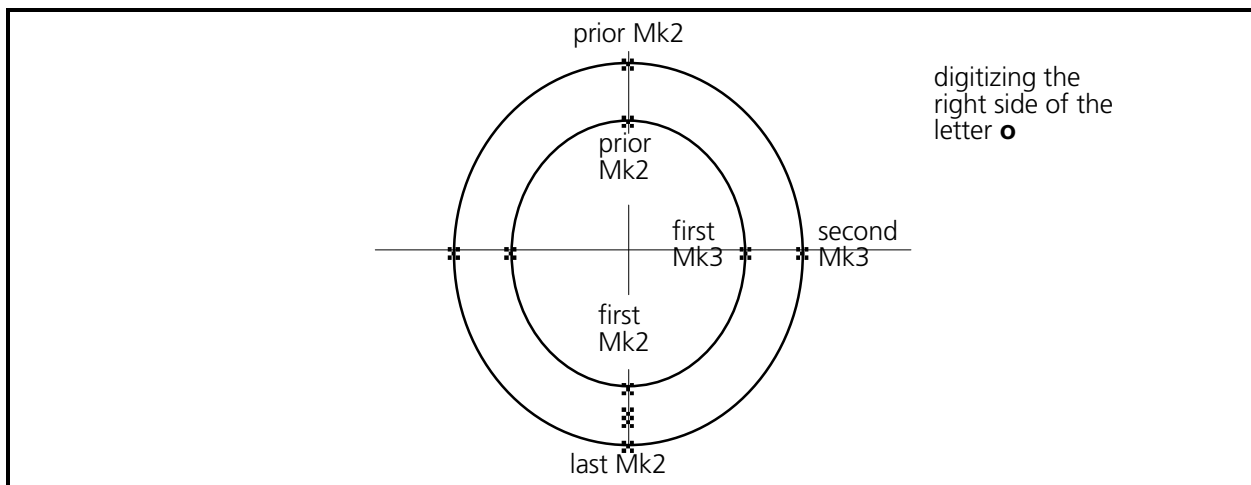

Figure 6-45
When digitizing 2 or more consecutive columns on an arc you do not redefine the beginning of the second (and additional) columns with a Mk1, Mk2. The last Mk2, Mk2 sequence of the prior column defines the start of the current column (see Figure 6-45).
7. The start of the right side column is already defined, therefore, enter a Mk3 for this column directly on the inside boundary of the column at the half way point to the bottom of the letter (see Figure 6-45).
8. Enter the second Mk3 on the line of the outside border of the circle and half way around to the bottom of the letter (see Figure 6-45).
9. Enter the first Mk2 for the end of this column at the bottom middle of the inside circle to define the end of the inside of the right half column (see Figure 6-45). This is the location where you started the column.
10. Enter the last Mk2 to define the end of the outside of the column at the bottom of the outside circle of the letter (see Figure 6-45). This is the same location where you entered the first Mk2, starting the column stitch digitizing.